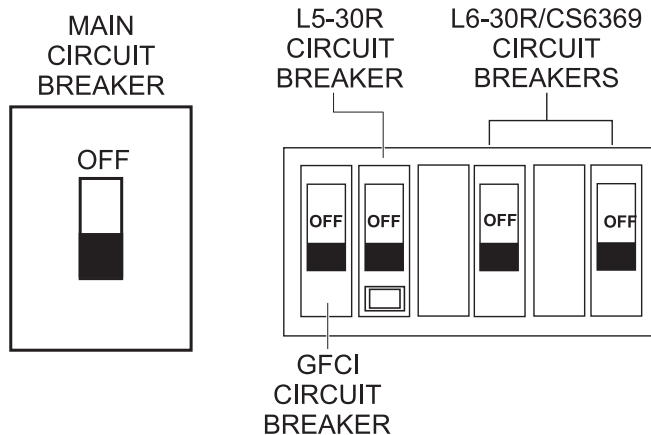

Figure 34. Circuit Breakers (OFF)
2. Place **ALL circuit breakers** in the **OFF** position (Figure 34).
1. Place **ALL circuit breakers** in the **OFF** position (Figure 34).